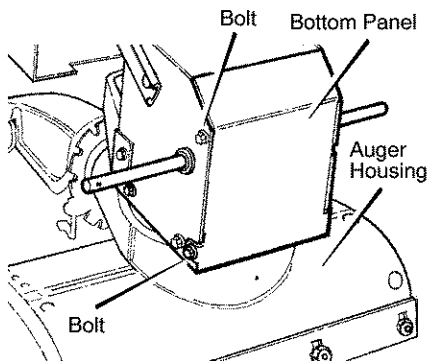

Figure 25
3. Loosen the **bolts** on each side of the **bottom panel** (see Figure 25).